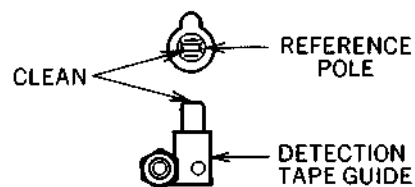

Fig. 7-2
- 4) If the Digital voltmeter reading is not increase to 14V DC at VR1 maximum. Remove the Resister R18 (150 kohms) from the system control P.C Board, and again adjust VR1 as the same manner in item 3).
**NOTE:** Clean the reference pole and the Detection tape guide before adjustment. (Refer to Fig. 7-2)